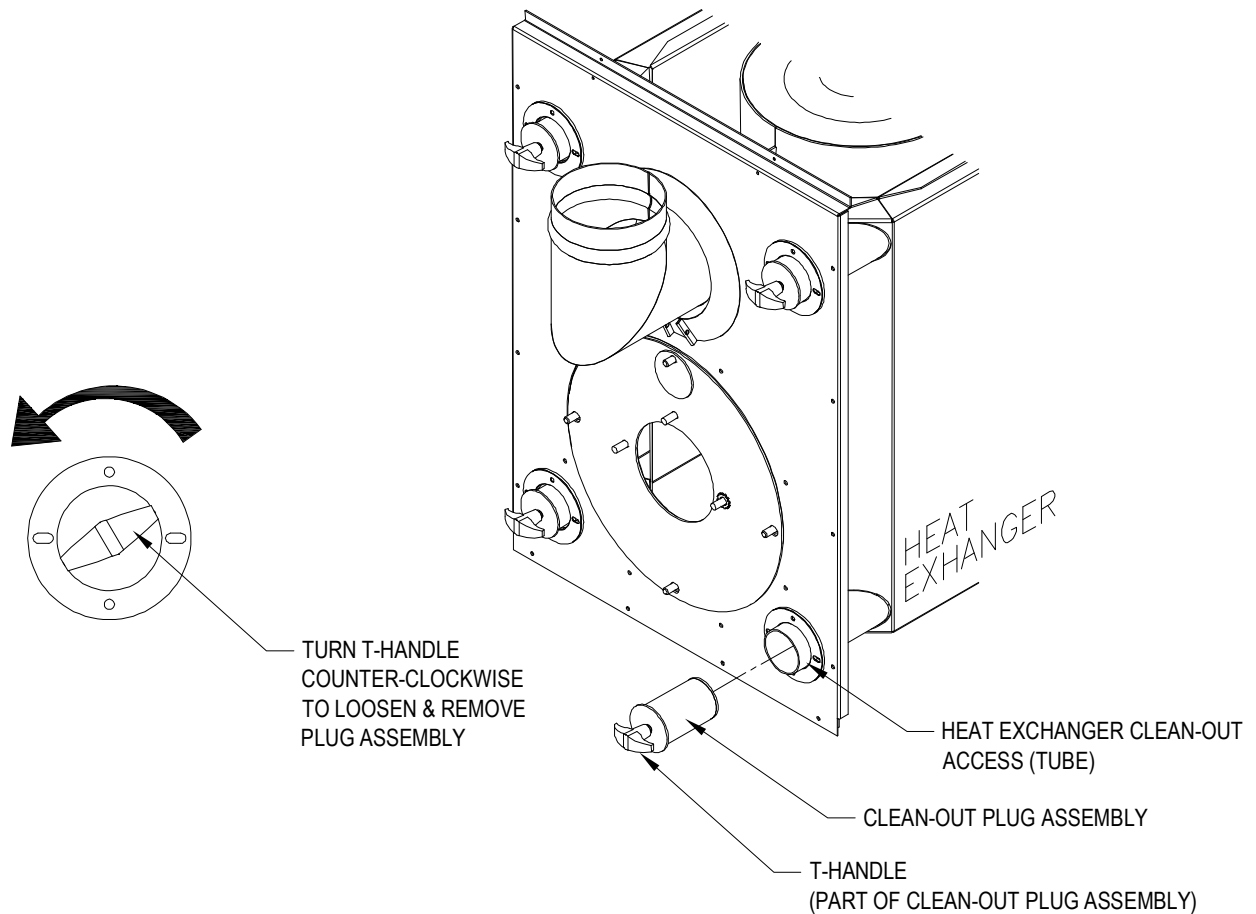

Figure 6: Location and Design of Heat Exchanger Cleanout Port
The heat exchanger may be inspected and cleaned through an access, or cleanout, port located in the burner compartment. Remove clean-out plugs, the vent connector pipe to the chimney, the burner, and the burner mounting plates. When removing the clean-out plugs, turn T-handle counterclockwise approximately two (2) full turns or just until the plug is able to be pulled from tube. Take care not to remove T-handle from assembly. See Fig. 6.